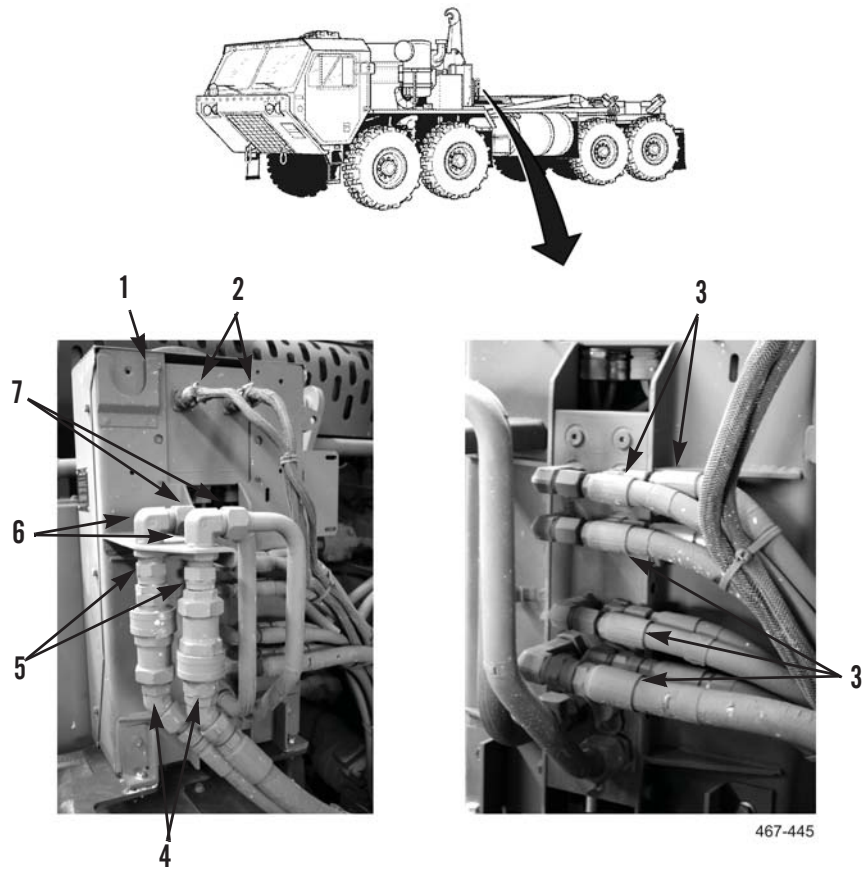

Figure 6. HEMTT Hydraulic Hose Removal.
3. Remove two wiring harnesses (Figure 6, Item 2) from hydraulic control box (Figure 6, Item 1).
4. Carefully remove eight hydraulic hoses (Figure 6, Item 3) from control box (Figure 6, Item 1).
5. Remove two hydraulic hoses (Figure 6, Item 7) from quick disconnect angle fittings (Figure 6, Item 6).
6. Remove two hydraulic hoses (Figure 6, Item 7) from control box (Figure 6, Item 1).
7. Remove two hydraulic hoses (Figure 6, Item 4) from quick disconnect fittings (Figure 6, Item 5).